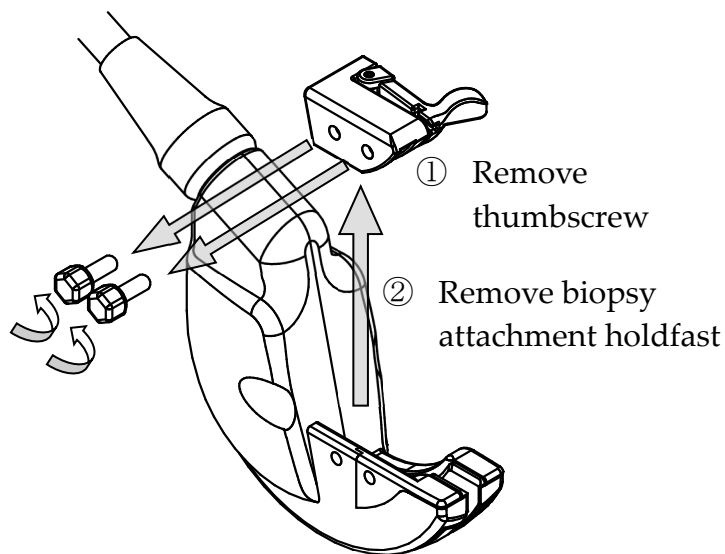
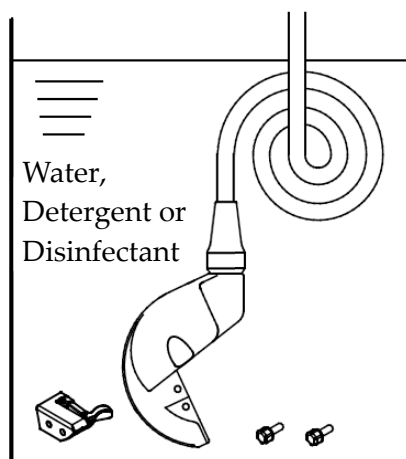

Fig.15 Detachment of the Biopsy Attachment Holdfast
Figure 16 Immersing the biopsy probe and biopsy attachment holdfast
- 2) Immerge the submergible part of the probe without connector into the diluted detergent (see figure 16). Using a 50 ml syringe flush the cavity of the probe 5 times under the liquid surface with 50 ml diluted detergent. Brush the whole length of the cavity of the probe 5 or more times by using an applicable brush. In addition the probe is brushed until visually clean.
- 2) Remove the 2 screws from the biopsy attachment holdfast (see figure 15) and immerge them into the diluted detergent. Immerge the biopsy attachment holdfast into the diluted detergent (see figure 16). Using a 50 ml syringe flush the cavity and the spiral spring of the biopsy attachment holdfast 5 times under the liquid surface with 50 ml diluted detergent. Brush the whole length of the cavity and the spiral spring of the biopsy attachment holdfast 5 or more times by using an applicable brush. In addition the biopsy attachment holdfast is brushed until visually clean.
- 3) Immerse the submergible part of the probe into the disinfectant. (see figure 16). Rinse the cavity of the biopsy probe with 50 ml disinfectant solution. Repeat this 4 times. Set a clock to insure the recommended contact time is 5 minutes.
- 2) Immerse the dismantled biopsy attachment holdfast into the disinfectant. (see figure 16). Rinse the cavity of the dismantled biopsy attachment holdfast with 50 ml disinfectant solution. Repeat this 4 times. Set a clock to insure the recommended contact time is 5 minutes.